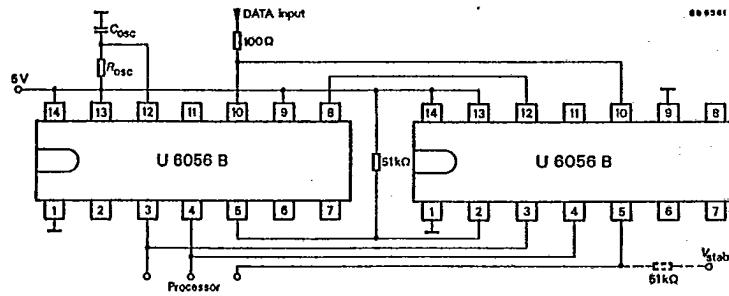

Fig. 16
b. CLK and P/S are parallel-connected in each case. DOUT_{MASTER} and DIN_{SLAVE} are connected with each other. The 16-bit data word can be read out serially via DOUT_{SLAVE} in one operation, Fig. 16.